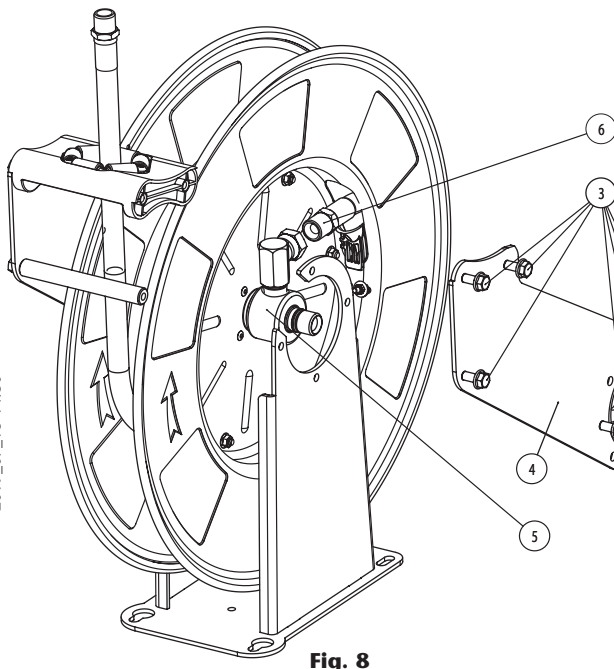
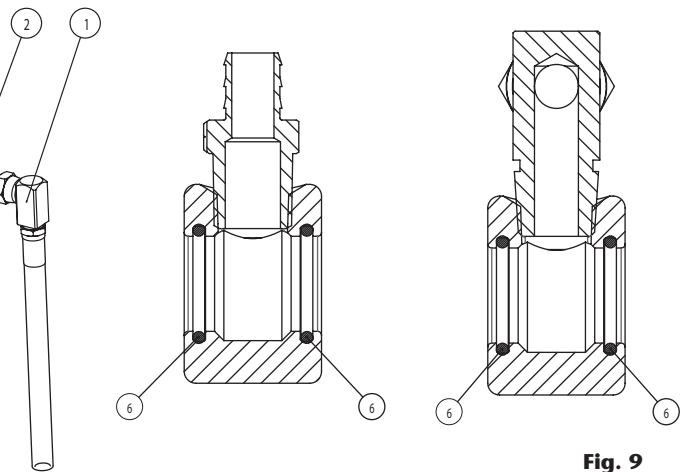

Fig. 8
Fig. 9
1. Disconnect the hose from the swivel (6) (fig. 8).
2. Disconnect the inlet hose loosening the inlet fitting (1) (fig. 8), and move away the circlip (2) (fig. 8).
3. Loosen the bolts (3) (fig. 8), to be able to remove the upper arm (4).
4. Pull out the swivel assembly (5) (fig. 8) and replace the seals (6) (fig. 9).
5. Remove the upper arm (4) (fig. 8) removing away the circlip (2) (Fig. 8) and loosening the bolts (3) (fig. 8).